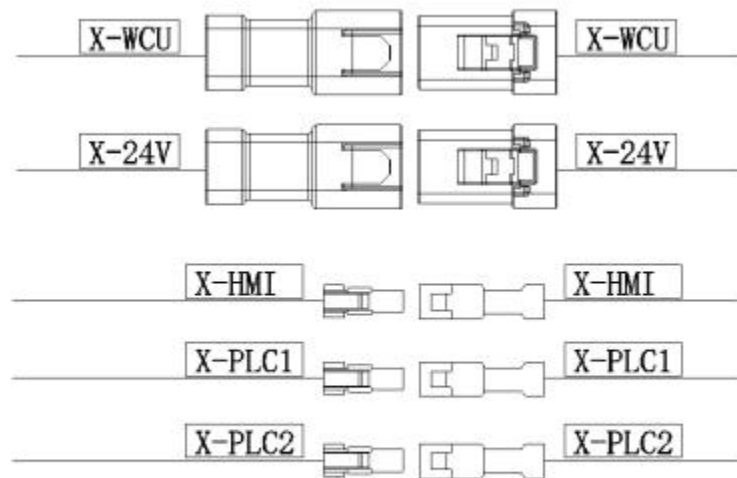

Figure 6.17 Connector mating
- Connect the upper and lower layer signal cables using connectors. Simply mate the cables with identical markings on both sides. See Figure 6.17 for the connector schematic diagram.